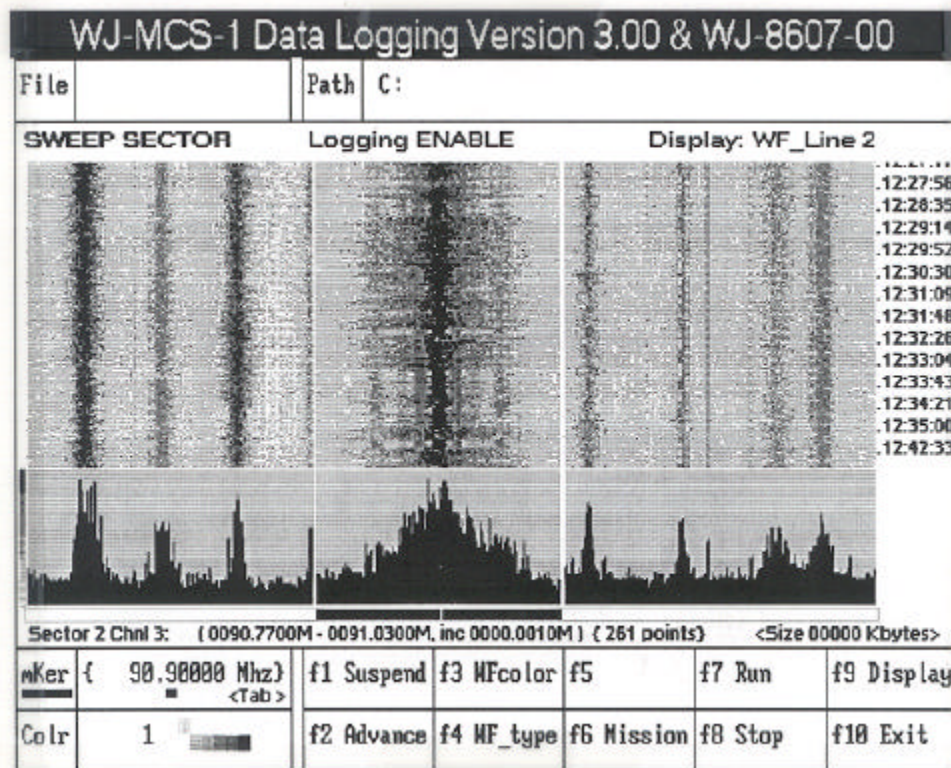

Figure I-28. DATA LOGGING WF_Line 2 Display
2. "WF_Line 2" - (Waterfall Line 2, shown in **Figure I-28**) uses a similar combination of two-dimensional and three-dimensional displays, the three-dimensional display being the same as WF_Line 1. While the two-dimensional display uses the same block format display as WF_Line 1, the peaks of the signal amplitude are color coded for easy recognition.